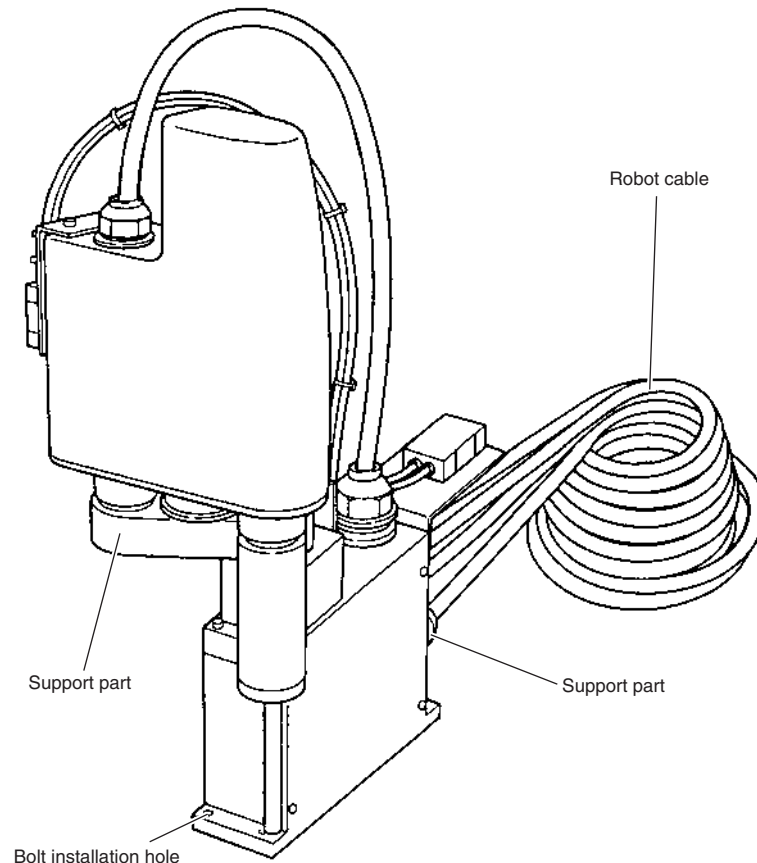

Fig. 3-4
- 1) Fold in the arm and wind the robot cable as shown in Fig. 3-4.